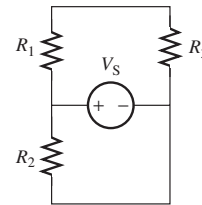

FIGURE P3.23 Circuit for Problem 3.23.
3.23 (A) Find the voltage drop across all resistors in Figure P3.23.